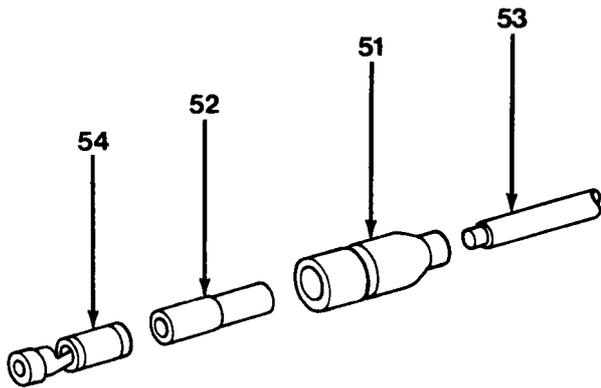

Figure 10-12
2. Slide shell (51) and sleeve (52) over cable (53, Figure 10-12).
3. Place cable (53) in cylinder end of terminal (54) and crimp.
4. Slide shell (51) and sleeve (52) over terminal (54).